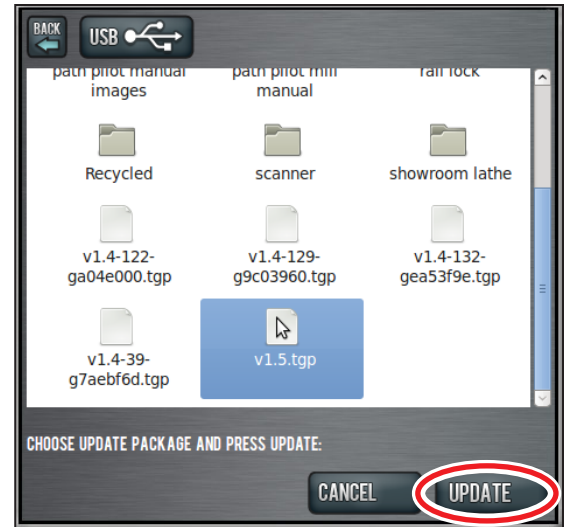

Figure 4
5. Navigate to the most recent PathPilot update file (vX.X) file on the USB drive (see **Figure 4**).
6. Click **Update** (see **Figure 4**).